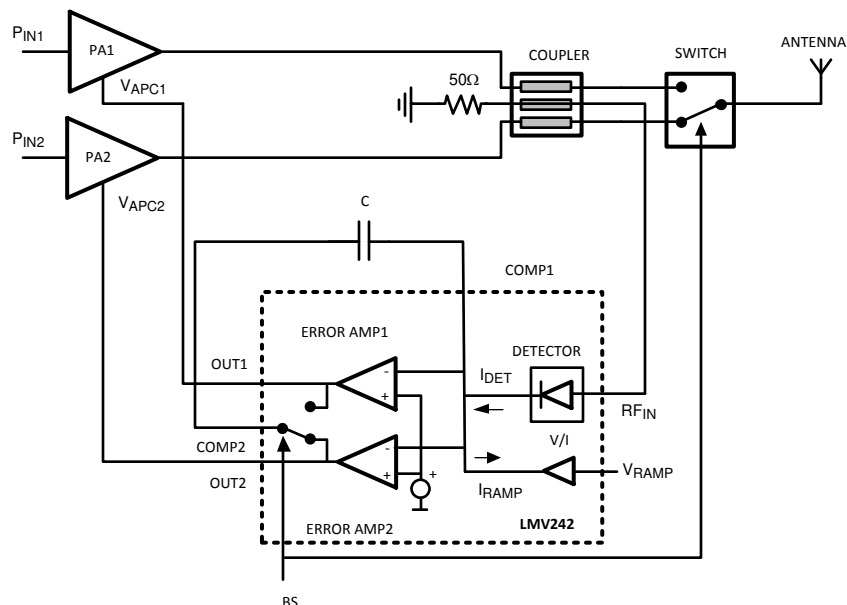

Figure 7-1. PA Control Loop
Figure 7-1 depicts a typical setup of a power amplifier (PA) control loop. Beginning at the output of the PA, this input is input to a detector, typically through a directional coupler. The error between detector output current I_{DET} and ramp current I_{RAMP} , representing the selected power setting, drives the inverting input of an op amp configured as an integrator. A reference voltage drives the noninverting input of the op amp. Finally, the output of the integrator op amp drives the gain control input of the power amplifier, which sets the output power. The loop stabilizes when I_{DET} is equal to I_{RAMP} .